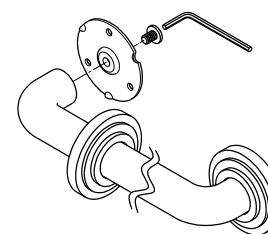

Fig. 2
- Step 2. Attach mounting plate and secure by threading Allen bolt (included). (Fig.2)